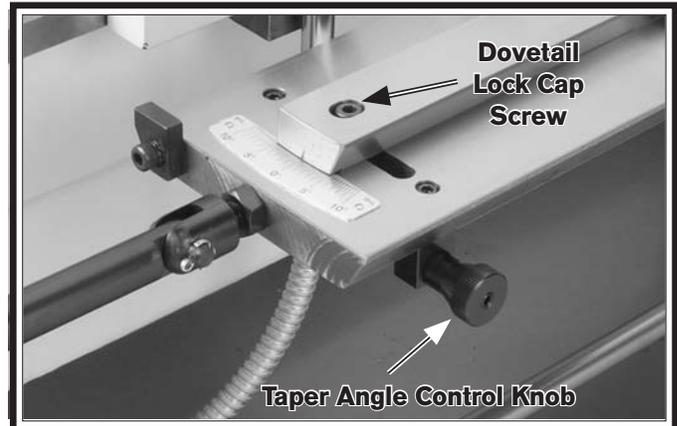
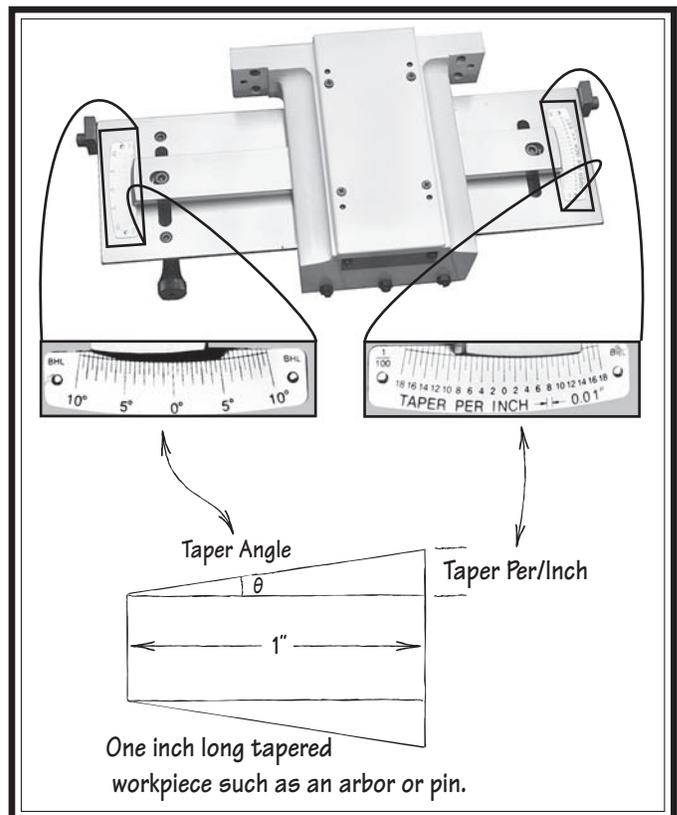

Figure 24. Taper angle control knob.
Figure 25. Scale relationship with workpiece.
4. Using a 6mm hex wrench, loosen the dovetail lock cap screw at each end of the taper attachment, as shown in **Figure 24**.
5. Turn the taper angle control knob (see **Figure 24**) until you reach the taper angle or the taper-per-inch setting that you need. Refer to **Figure 25** to select which scale best suits your needs.